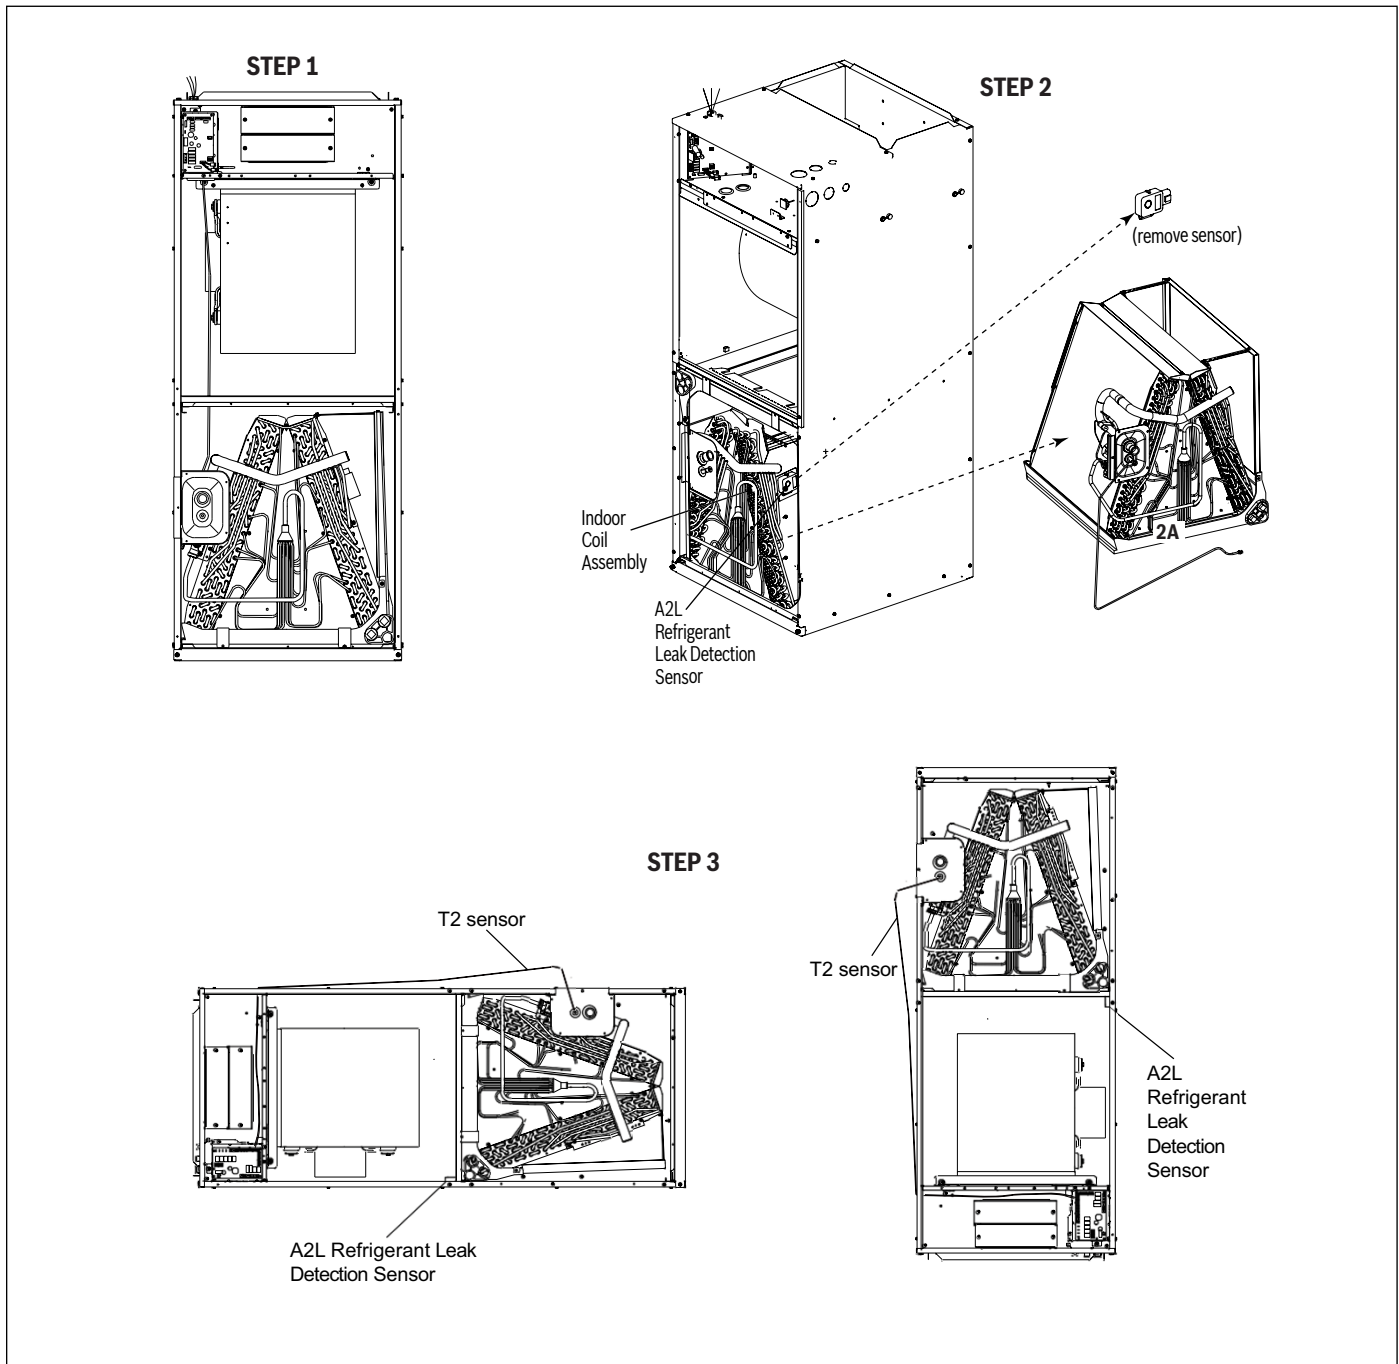
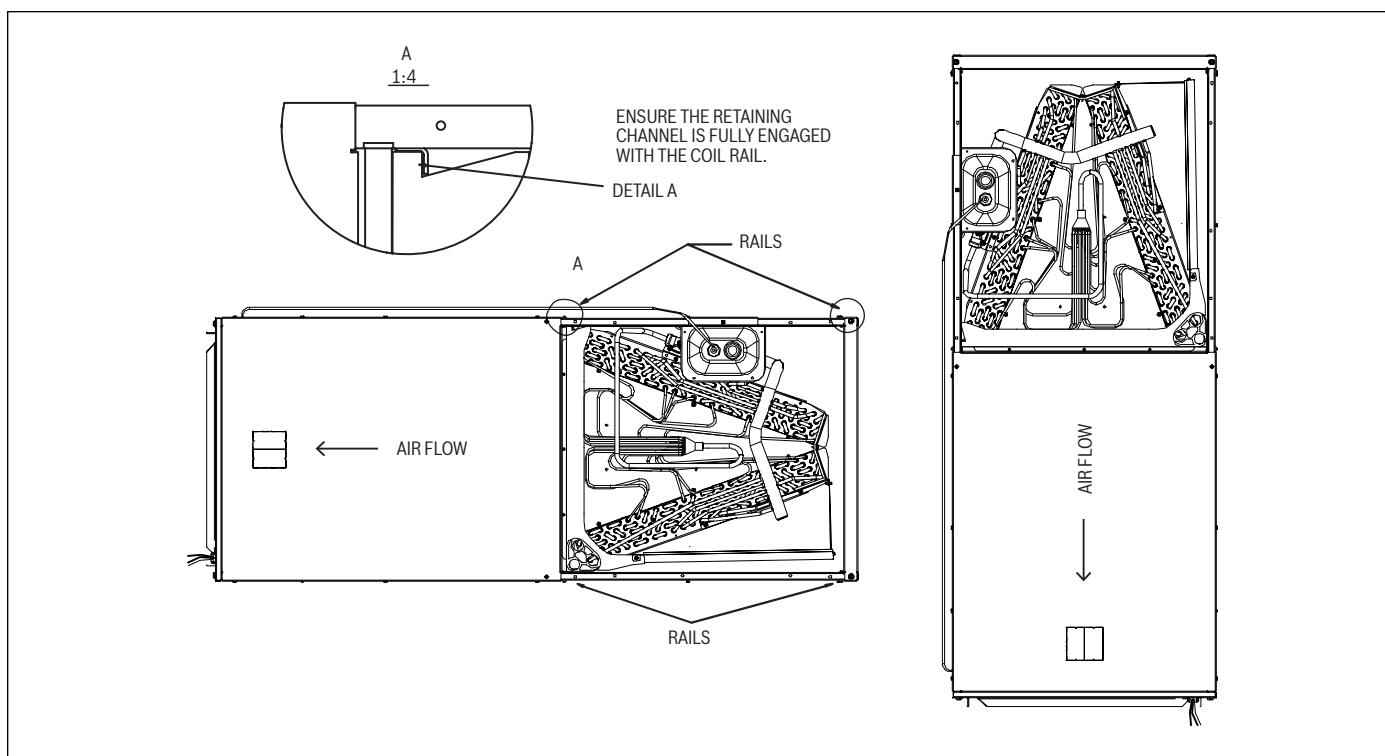

Figure 12 Vertical downflow & horizontal left applications conversion
Figure 13 Vertical downflow & horizontal left applications
A vertical upflow unit may be converted to horizontal left by removing indoor coil assembly and the refrigerant leak detection sensor. Reinstall the indoor coil and the refrigerant sensor for left hand air supply. See Figure 12 and Figure 13.
- Reinstall the indoor coil 180° from original position. Ensure the retaining channel is fully engaged with the coil rail. See Figure 12 and Figure 13.
1. Remove the screws and front panel and disconnect the T2 sensor wire's molex plug from the board (Figure 12, Step 1).
2. Remove the A2L refrigerant sensor from the coil (Figure 12, Step 2). Pull out the coil with the T2 sensor wire attached (do not disconnect the T2 sensor from the liquid pipe on the A coil). Pull the sensor wire through the liquid line hole in the cabinet cover (Figure 12, Step 2A).
3. Reinstall the A2L refrigerant sensor at the position shown below (Figure 12, Step 3).
4. Replace the coil in the correct orientation and secure in place. Remove the knockout on the side of the cabinet, and add the plastic grommet from the included accessory bag. Connect the molex plug end of the T2 sensor wire to the control board (insert wire through the knockout). Ensure the flanges on the evaporator coil are engaged with the guide rail inside the cabinet. (Figure 12, Step 3)